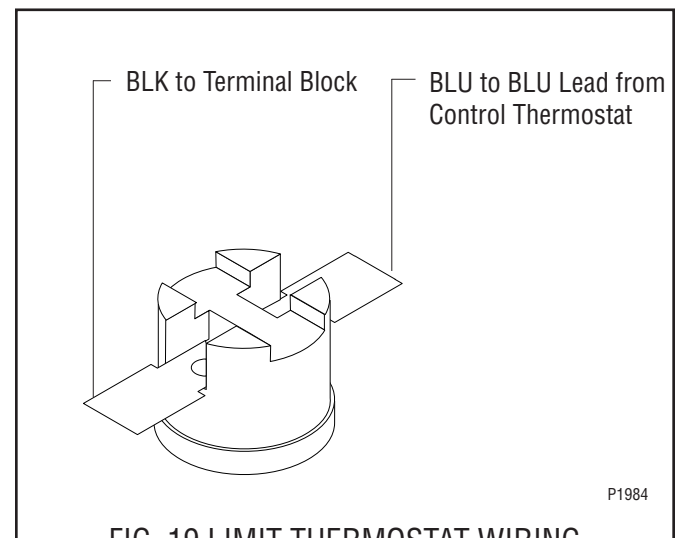

FIG. 19 LIMIT THERMOSTAT WIRING
4. Refer to FIG. 19 when reconnecting the wires.